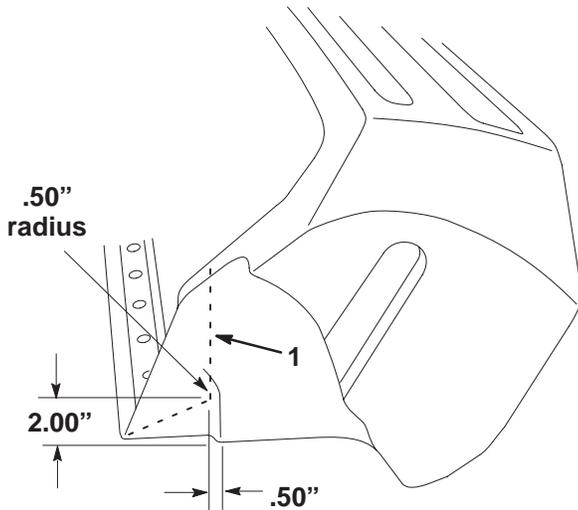

Figure 4
- Using dimensions shown in Figure 4, locate and mark cut-off lines on each side of basket.